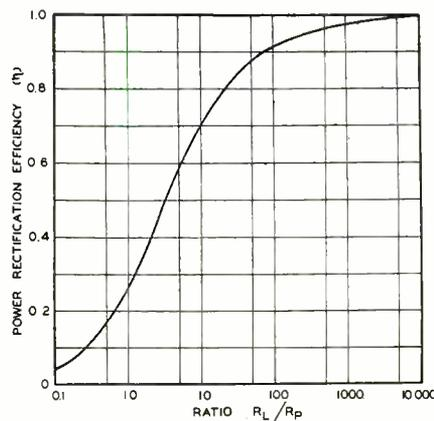

Fig. 7—Theoretical curve of the power rectification efficiency versus the ratio of the rectifier load resistance to internal plate resistance of the rectifier
While not solvable directly,  $\beta$  can be obtained as a function of  $R_L/R_p$  from a graphical plot of (16). For our purpose, it is more desirable to plot the rectification efficiency  $\eta$  directly as a function of  $R_L/R_p$ ; this is again accomplished graphically and leads to Fig. 7.
The value of  $R_L$  is easily determined while  $R_p$  can be closely approximated from a plot of the  $i_p-e_p$  characteristic of the rectifier tube. The corresponding power rectification efficiency for a given rectifier tube and load is then obtained from Fig. 7. Finally, power output measurements are corrected for this efficiency by use of equation (6), as in Method 1.